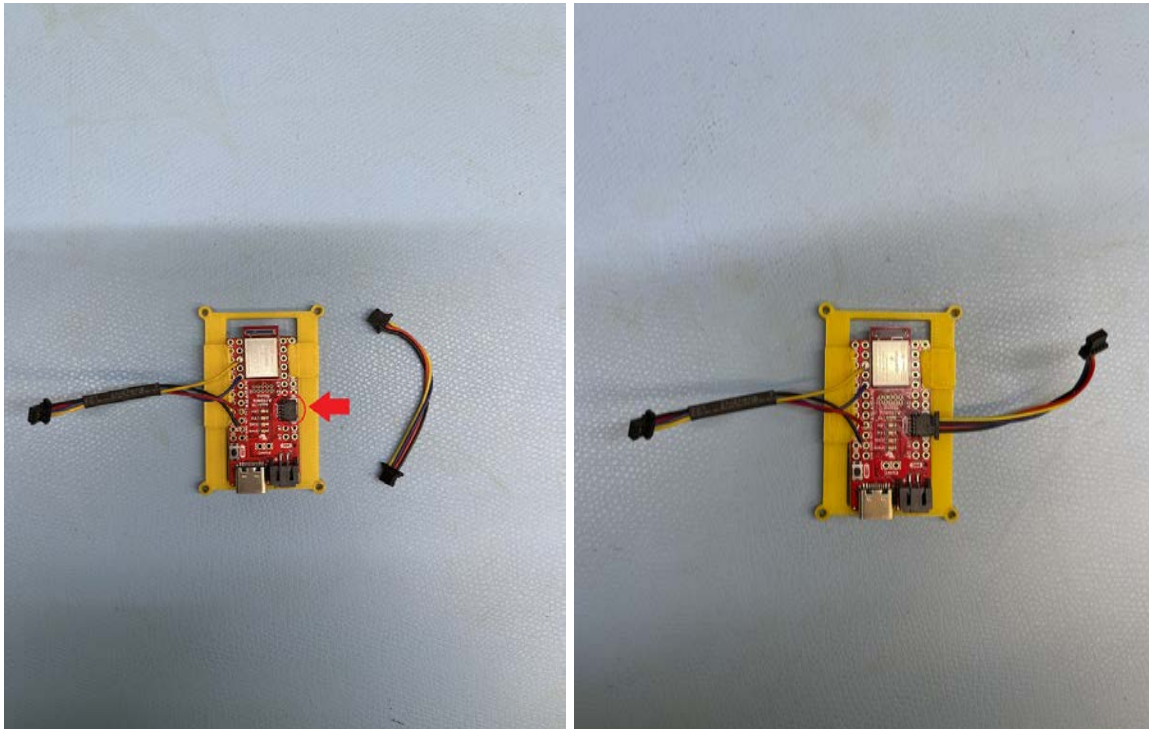

Figure 86: The 50 mm Qwiic cable is attached to the Qwiic connector on the microcontroller.
8. Attach the 50 mm Qwiic cable to the Qwiic connector highlighted in red in Fig 86 on the microcontroller.